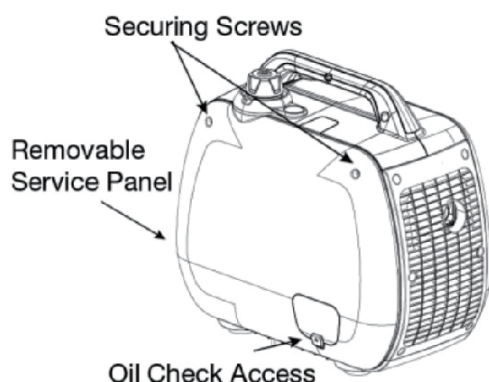

Fig. 15A
1. Remove the spark plug maintenance cover. (Fig.15A)